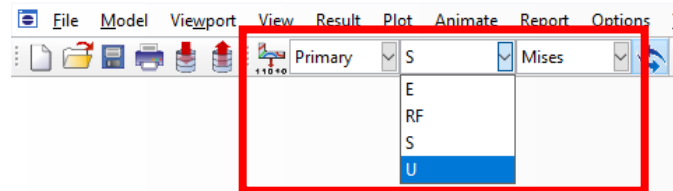

Figure 1-35 – The Field Output menu.
3. You can change the contour plot from the **Field Output** menu, as shown in Figure 1-35. You may choose from the output data defined in the **History Output Request**, see Section 1.4.